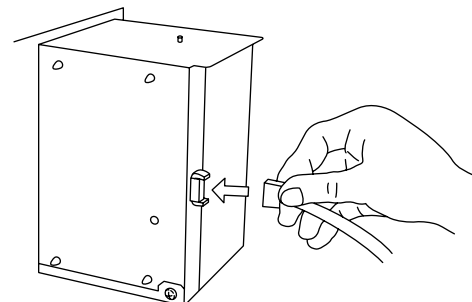

Fig. 9
- (6) Remove 2 screws holding the fan motor. (Fig. 9)
- (7) Lift the fan motor up to free it from the motor holder. (Fig. 9)
- 1) Connect the receiver connector to the socket located outside the electrical box. (Fig. 9)